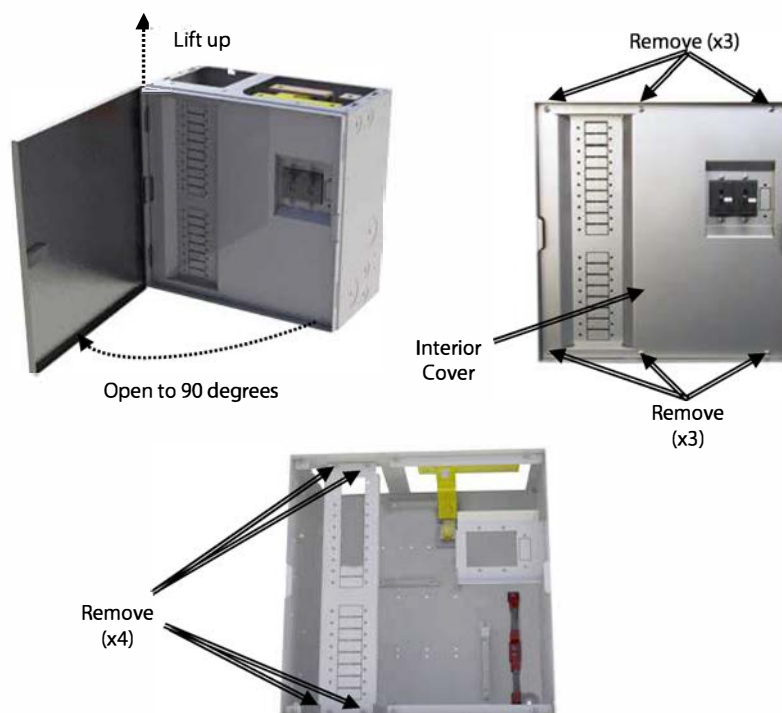

Figure 3 Removing the Covers and Main Bracket
1. Remove the front cover (sometimes called the "front door") of the GSLC. Open the door to 90 degrees and lift up about 1/2" to disengage it from the GSLC (see Figure 3).
2. Remove the interior cover (sometimes called the "dead front") of the GSLC. Remove the six screws installed across the top and bottom of the cover (see Figure 3) and take the interior cover off.
3. Remove the main circuit breaker bracket. Remove the four screws at the top and bottom of the bracket (see Figure 3) and take it off.
5. Re-install the main circuit breaker bracket using the four screws and any star washers that were previously removed. Use the illustrations in Figure 3 on page 4 for reference.
At this stage, the installation is complete. The interior cover must be re-installed using the six screws and star washers previously removed. The front cover can then be re-installed. Use the illustrations in Figure 3 on page 4 for reference.